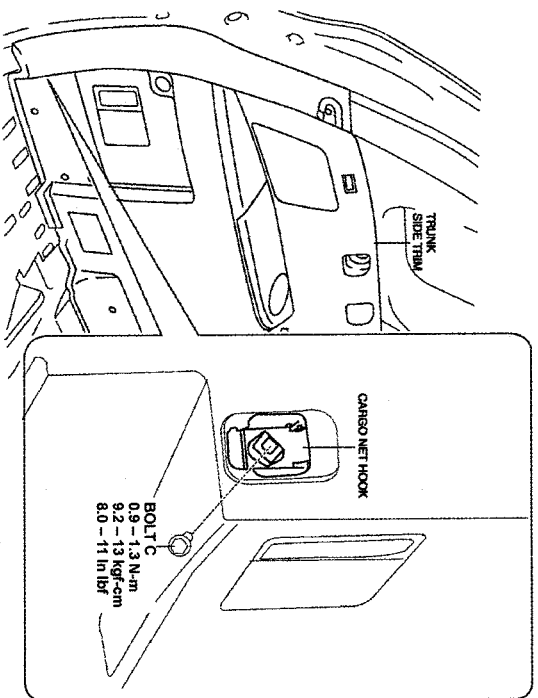

FIGURE 42
- 3.) REMOVE BOLT C THEN REMOVE CARGO HOOK. (SEE FIGURE 42)
- 4.) HOLD C-PILLAR TRIM WITH YOUR HANDS AND PULL THE TRUNK SIDE TRIM IN THE DIRECTION OF ARROWS (1), (2), (3), AND (4). REMOVE HOOKS AND GUIDES B. (SEE FIGURE 42)